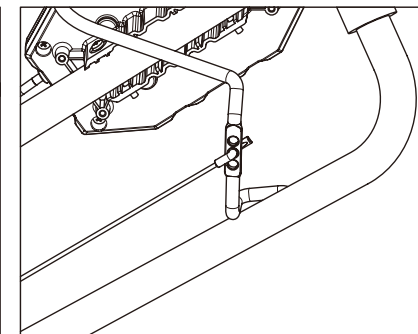

Fig 2
2. Route the z-bend of the cable through the center hole of the Auger Lever. (Fig 2)